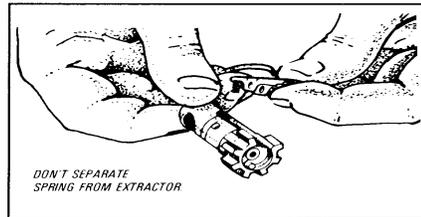

Figure 10-18. Removing the Extractor and Spring
- p. Lift out the extractor and spring (figure 10-18), taking care so that the spring does not separate from the extractor.